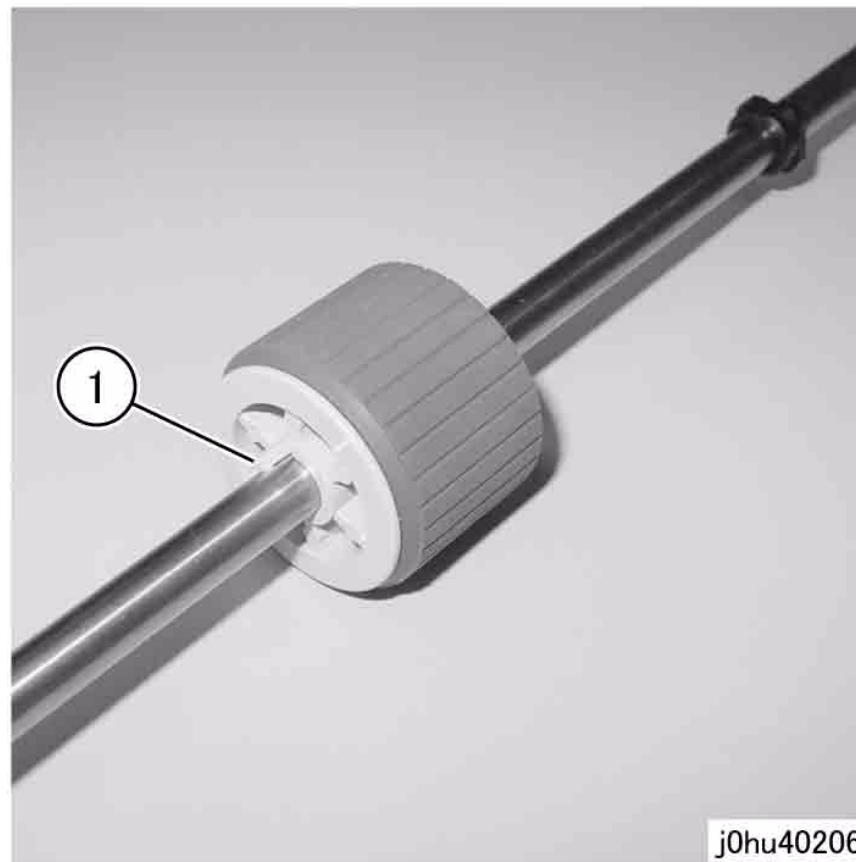

Figure 2 Tray 1 Feed Roll
4. Remove the Tray 1 Feed Roll (Figure 2).